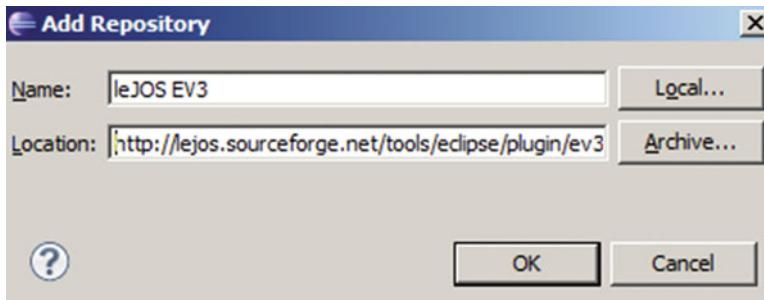

Figure 1-21. Step 2 of installing the leJOS EV3 plug-in
2. Click *Add*, and you will see another dialog box, as shown in Figure 1-21. Enter the name *leJOS EV3*, and for the location enter this: <http://lejos.sourceforge.net/tools/eclipse/plugin/ev3>.